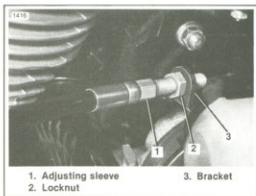

Figure 6-22. Clutch Cable Adjustment
2. See Figure 6-22. Loosen the locknut (2). Turn the adjusting sleeve (1) all the way into the bracket (3).
4. See Figure 6-22. Turn the adjusting sleeve (1) outward until the proper measurement as shown in Figure 6-23 is obtained. Tighten the locknut (2).